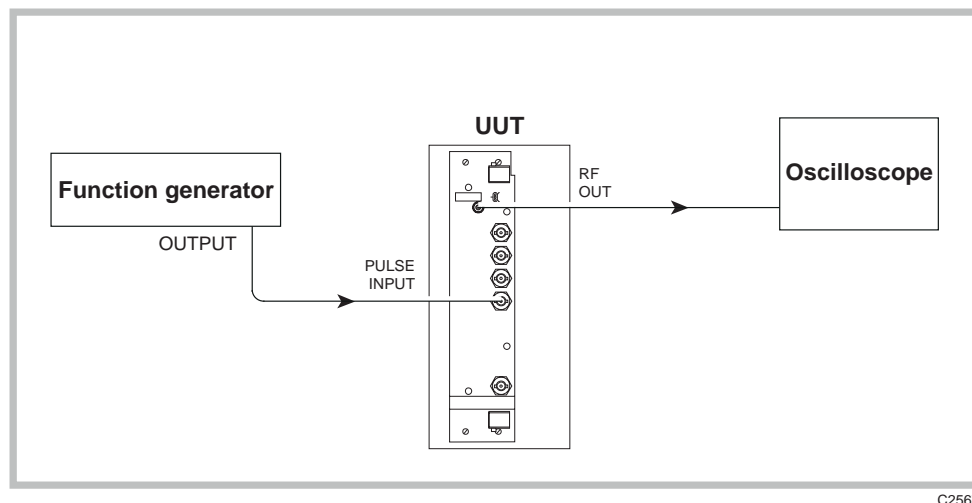

Fig. A-3 Pulse modulation rise and fall time test set-up
- (1) Connect the test equipment as shown in Fig. A-3.
- (2) On the UUT set: